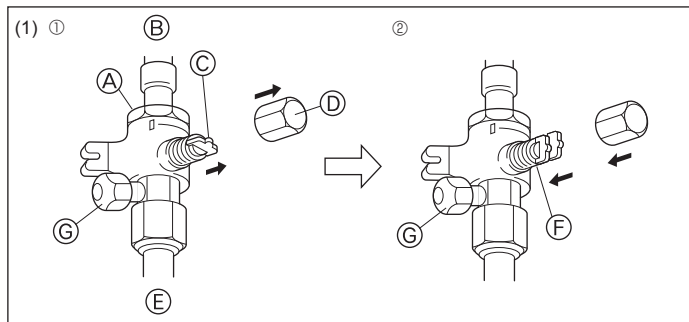
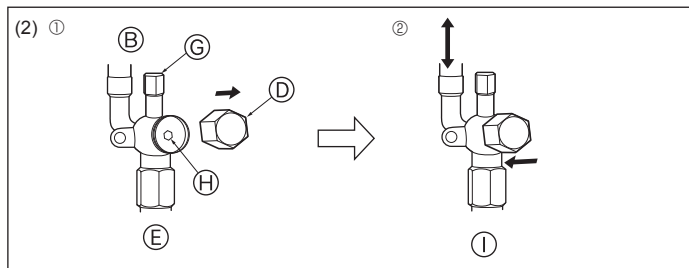

Fig. 4-9
Fig. 4-10
(1) Gas side (Fig. 4-9)
- ① Remove the cap, pull the handle toward you and rotate 1/4 turn in a counterclockwise direction to open.
- ② Make sure that the stop valve is open completely, push in the handle and rotate the cap back to its original position.
(2) Liquid side (Fig. 4-10)
- ① Remove the cap and turn the valve rod counterclockwise as far as it will go with the use of a 4 mm hexagonal wrench. Stop turning when it hits the stopper. (ø6.35: Approximately 4.5 revolutions) (ø9.52: Approximately 10 revolutions)